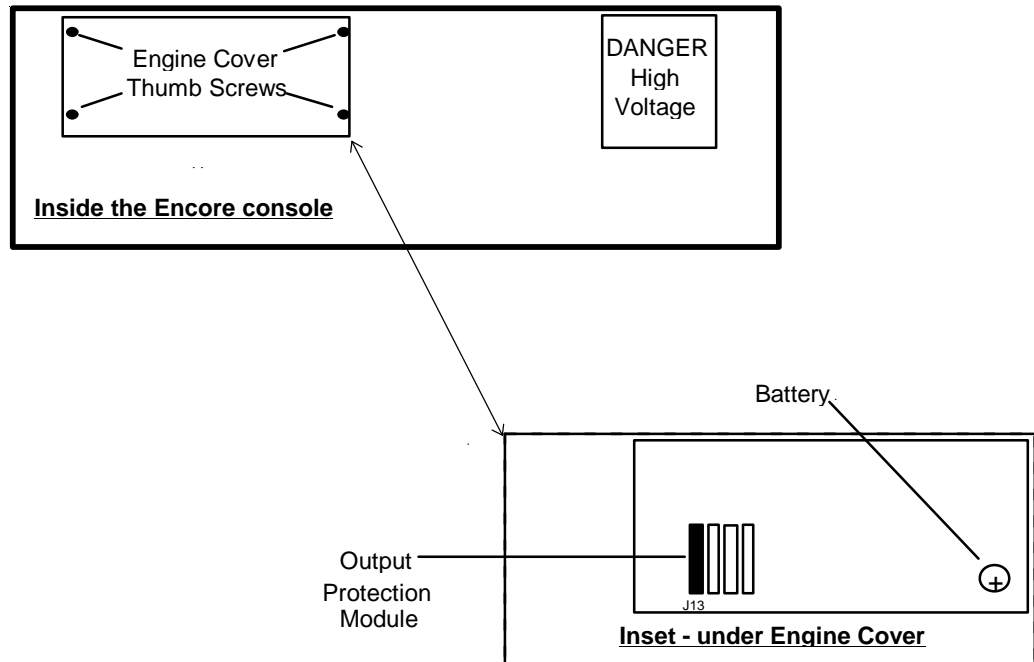

Figure A-1, Inside the Console
1. See Figure A-1. First, perform steps 1 - 5 in the battery replacement procedure above to access the Output Protection Module under the Engine cover.